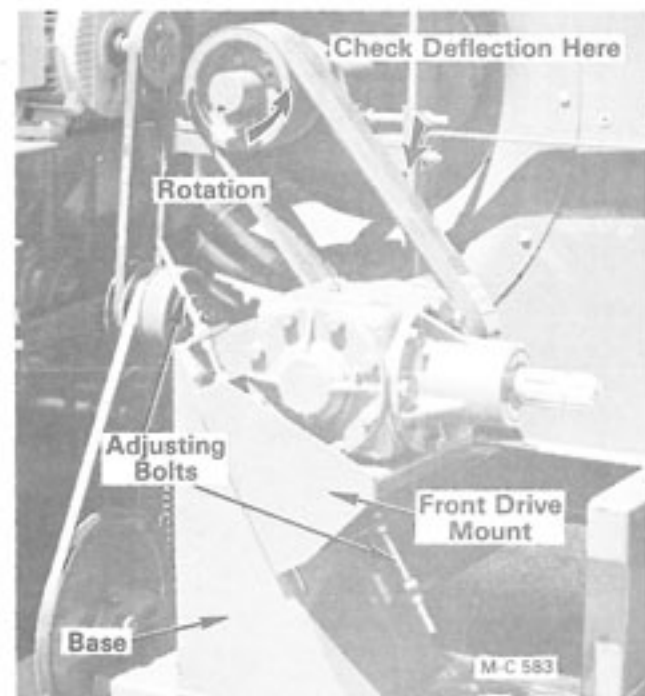

Figure 34 - PTO Front and Irrigation Drive
2. Loosen the locknuts on the adjusting bolts. Turn the nuts on the adjusting bolts to move the gear box down to increase belt tension, see Figure 34.
3. On new belts, adjust tension so that 66 lbs. of pressure will deflect the belt(s) 5/16". After 24 to 48 hours of running readjust belt tension so that 54 lbs. of pressure will deflect the belt(s) 5/16", see Figure 34.